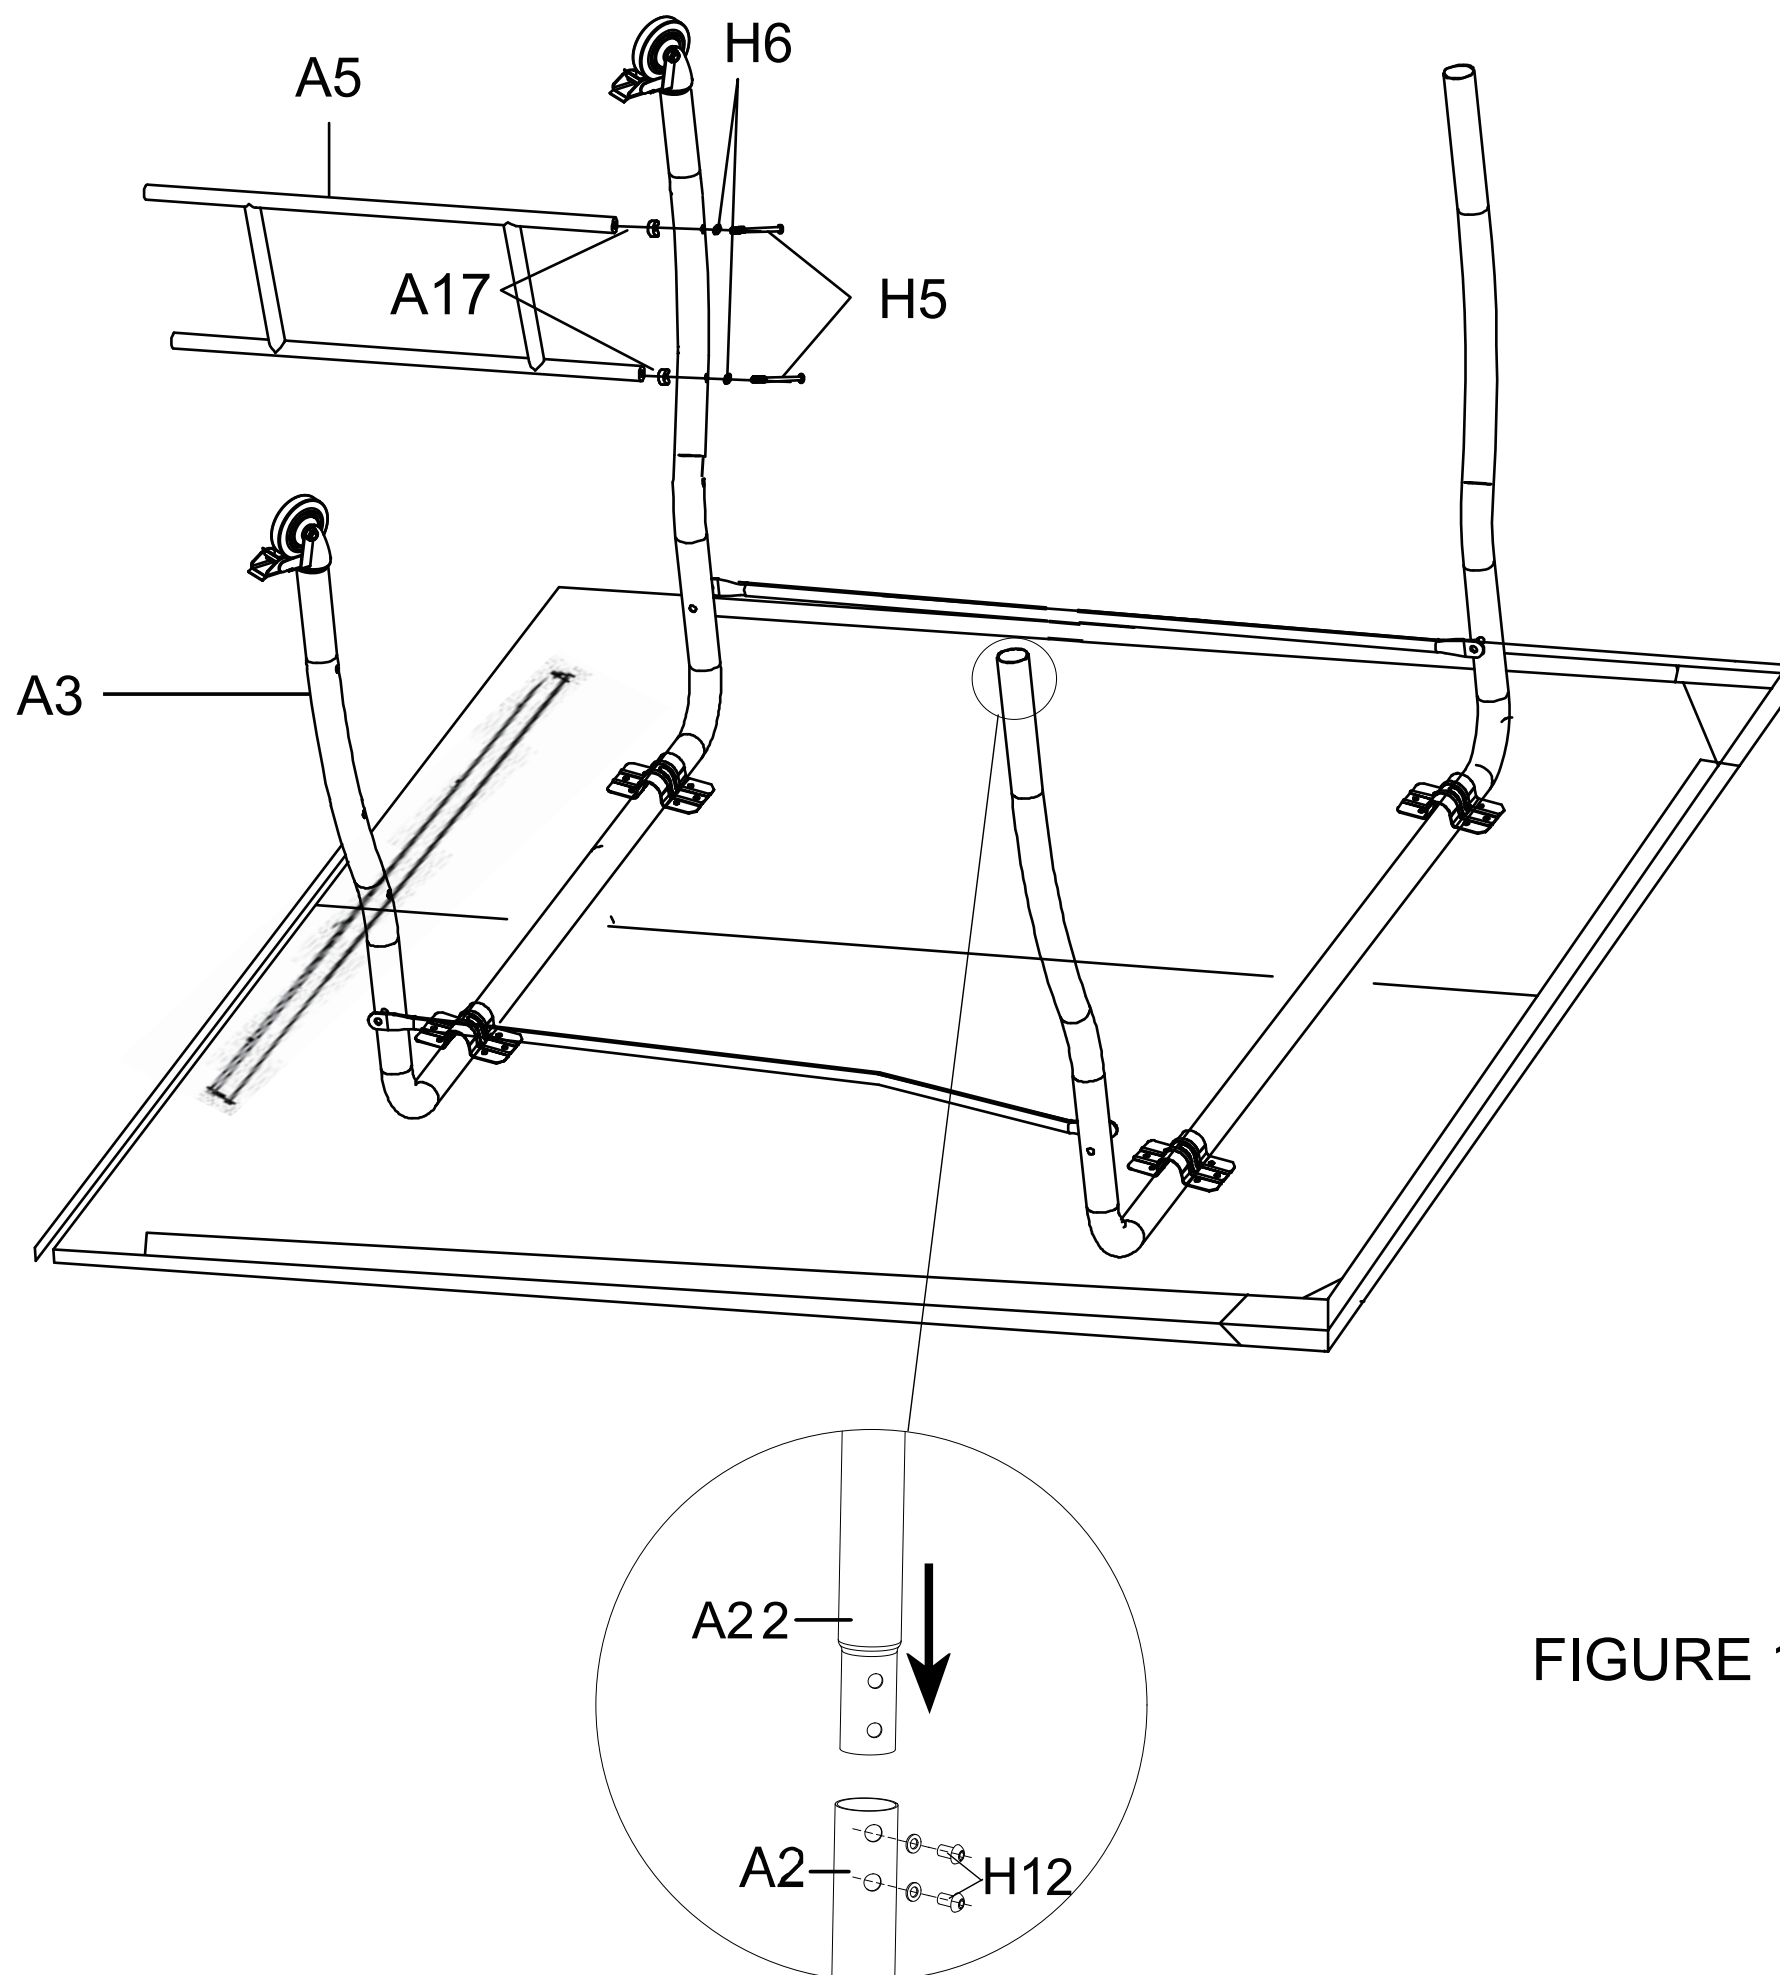

FIGURE 11
STEP 11: Attach the H leg A5 to the leg A3 using the bolts H5, washers H6 and plastic washers A17 as shown in FIGURE 11.